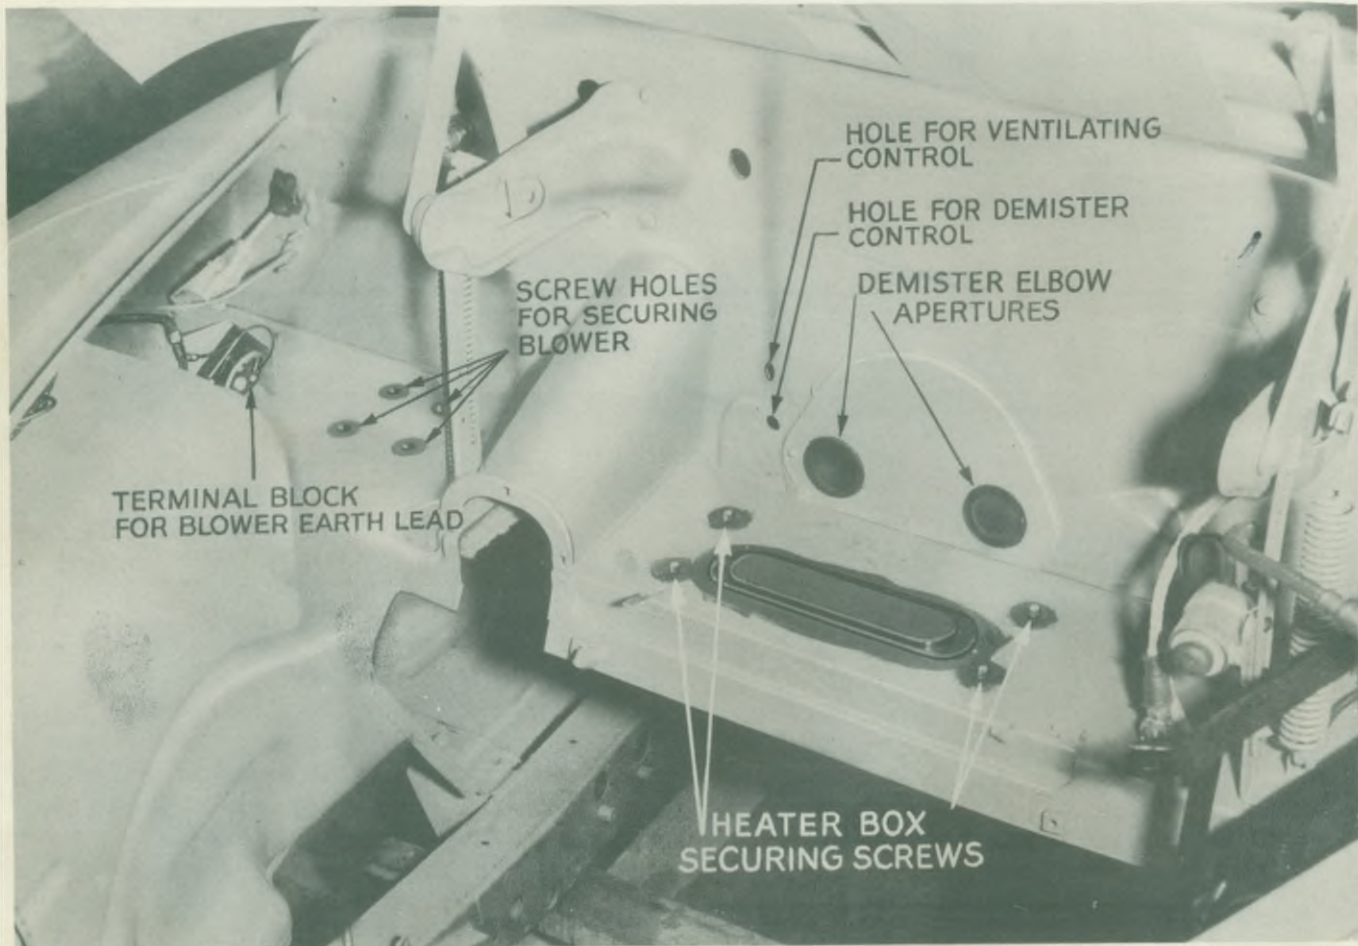

Fig. 18. Showing position of the holes for assembling $3\frac{1}{2}$ KW Heater
The later bodies, after approximately Comm. No. V.179,500, are prepared for the $3\frac{1}{2}$ KW Heater, there being one aperture only for the base of the heater, two holes each being provided for the demister elbows and for the two control cables. These details will be appreciated by reference to Fig. 18.
3. Remove the rectangular plate from the flat portion of the bulkhead (see Fig. 18).